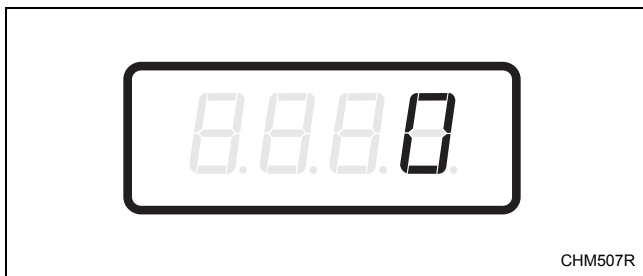

Figure 18
4. When “AtS7” appears in the display, press the START (enter) keypad. There are five digits in the Delicate Hot Vend Price. The fifth digit will appear in the display and will flash one (1) second on, one (1) second off. Refer to *Figure 18*.